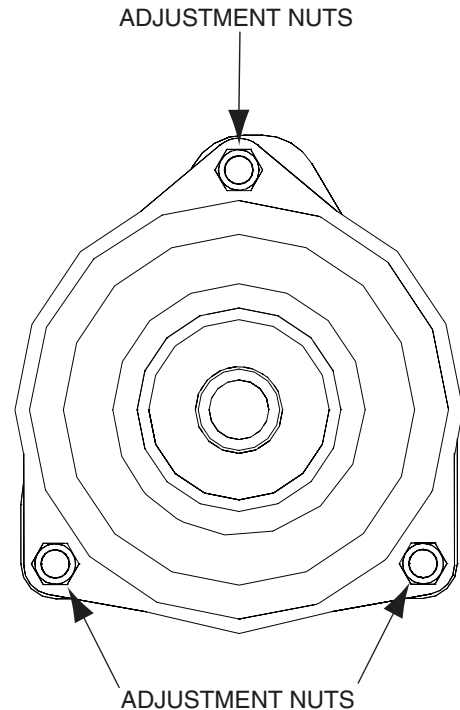

Figure 6-12. Clutch Air Gap Adjustment
3. Tighten or loosen the adjusting bolt as needed to achieve the 0.015 inch airgap. See Figure 6-12. Perform this operation at all three inspection windows.